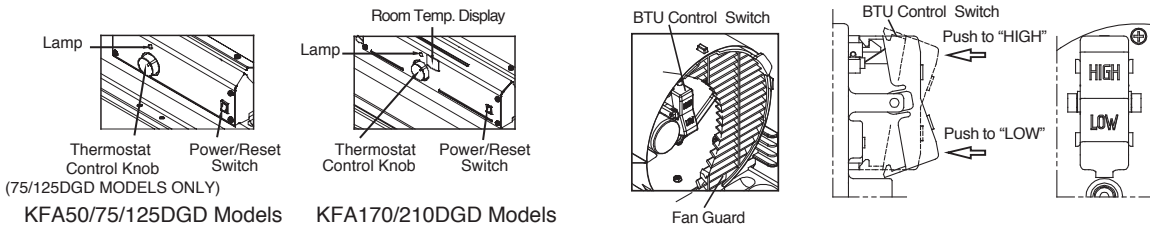

Figure 8. Controls for All Models
Insert screws through handles, fuel tank flange and wheel support frames as shown in Figure 8 and attach nut finger tight after each screw is inserted.
5. Push "BTU control Switch" to desired level "High or LOW" (See Figure 8.) (KFA125/170/210DGD Models Only)